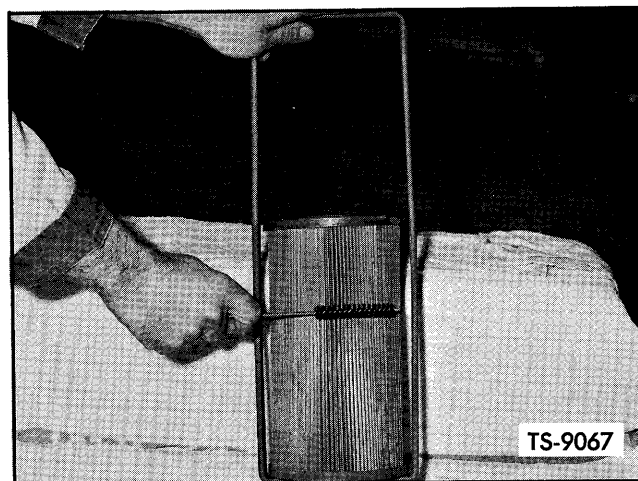

Fig. 4. Cleaning Filter Element with Stiff Bristled Brush
3. Immerse filter element in hot soapy water. Soak and intermittently agitate element and relief valve components for approximately 30 minutes to loosen dirt particles. Remove any remaining deposits between element pleats with a stiff bristled **non-metallic** brush as shown in Figure 4. Flush element and relief valve components with clean hot water until drain water is clear.